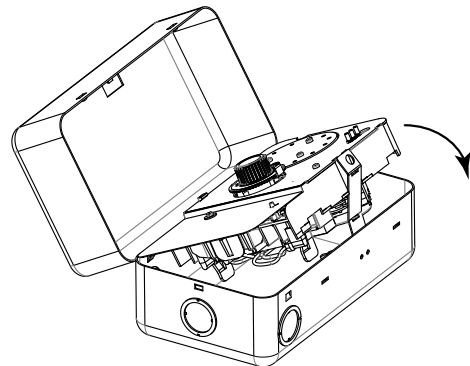

Figure 3. Installing the G8000 Defrost Timer.
6. Snap mechanism in the applicable enclosure. See Figure 3.